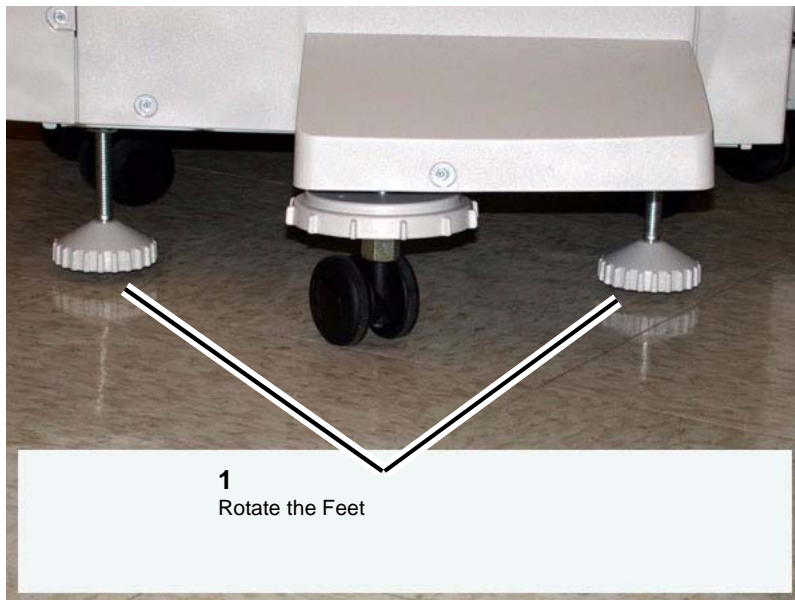

Figure 1 Finisher Feet
4. Rotate the Feet (2) to free the Finisher. (Figure 1)